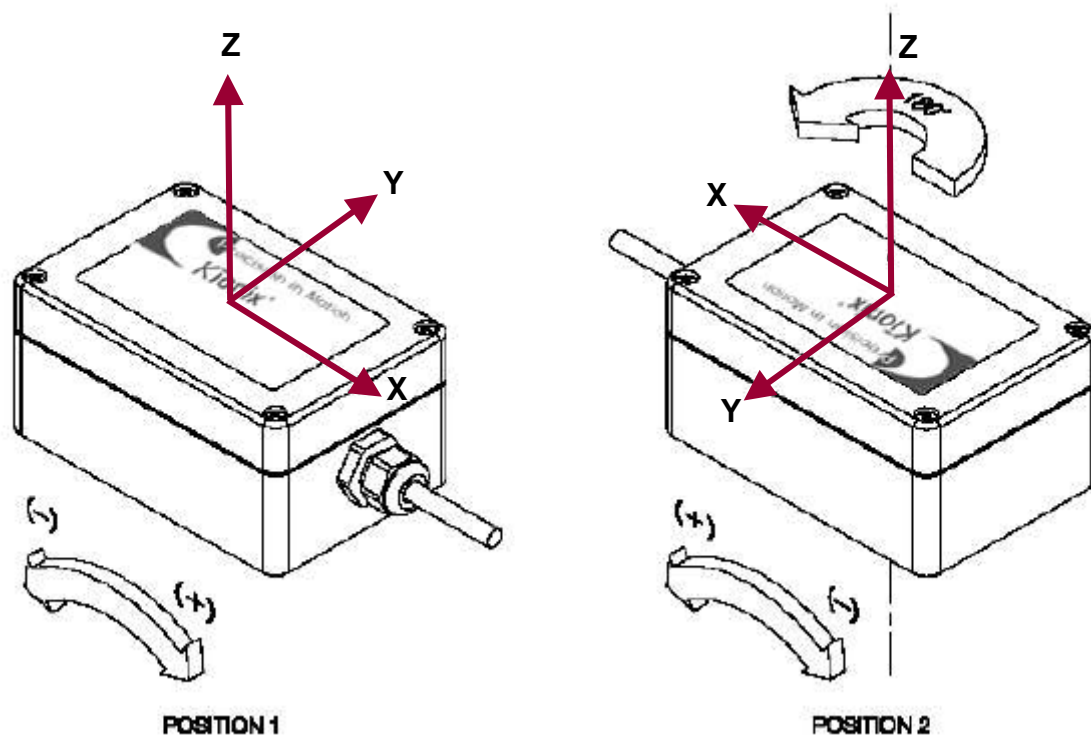

Figure 1: Rotating a sensor module 180 degrees on a flat surface
3. Rotate the sensor module 180 degrees on the surface so that it is facing the opposite direction (see Figure 1).